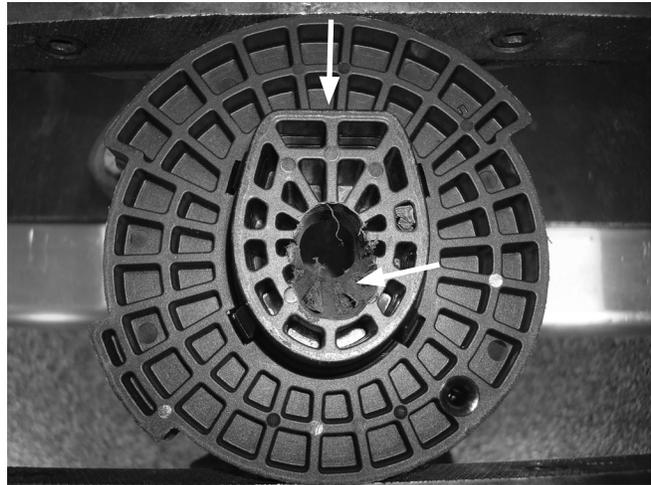

Fig. 14
13. Flip the lower spring seat over and on the bottom side, opposite of the flat, create the same “ramp” halfway up the hole previously drilled (fig. 14). Repeat steps 9-13 for the lower spring seat on the opposite side of the vehicle.